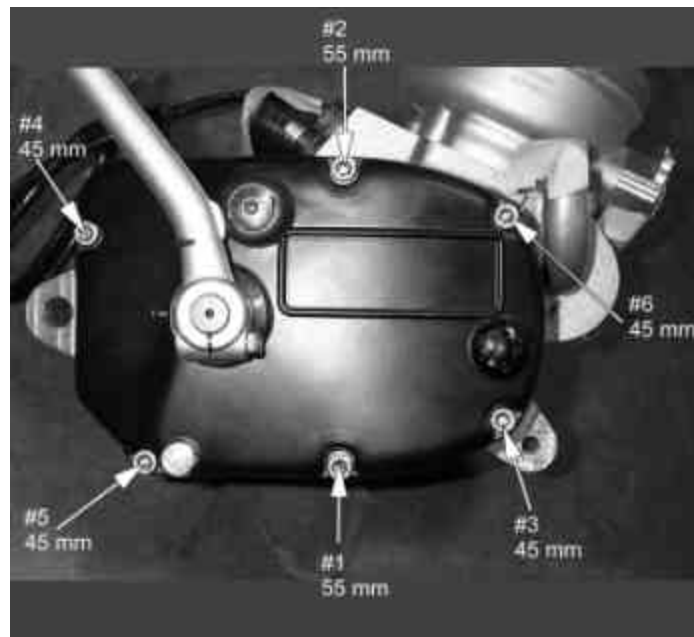

Figure 36
8. Install the clutch cover taking care to put the two longer bolts in their proper locations and tightening in the order specified in figure 36. (5mm hex key, 5.8 ft-lb, 7.8 Nm).